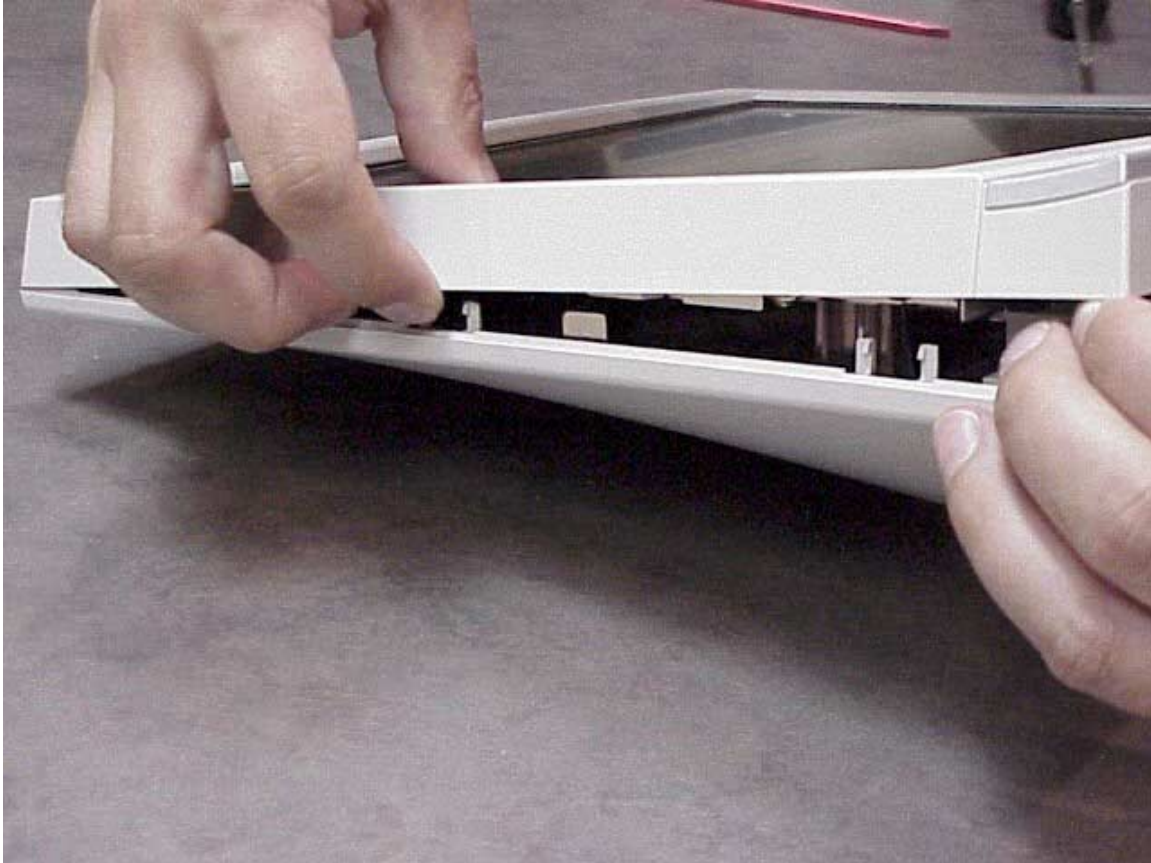

Figure 3.1: run your fingers around the LCD Assembly, separating the bezel from the base.
Step 3: once you have the LCD Bezel separated at one corner of the LCD Assembly, it should now be easy to run your fingers between the LCD Bezel and Base along one side of the LCD Assembly, then across the top of the LCD Assembly, and back down the opposite side, as shown in figure 3.1. If the separation tabs on the opposite side bottom did not separate as you were running your fingers around the LCD Assembly, use the screwdriver to aid in their separation, much as you did in Step 1 and Step 2.